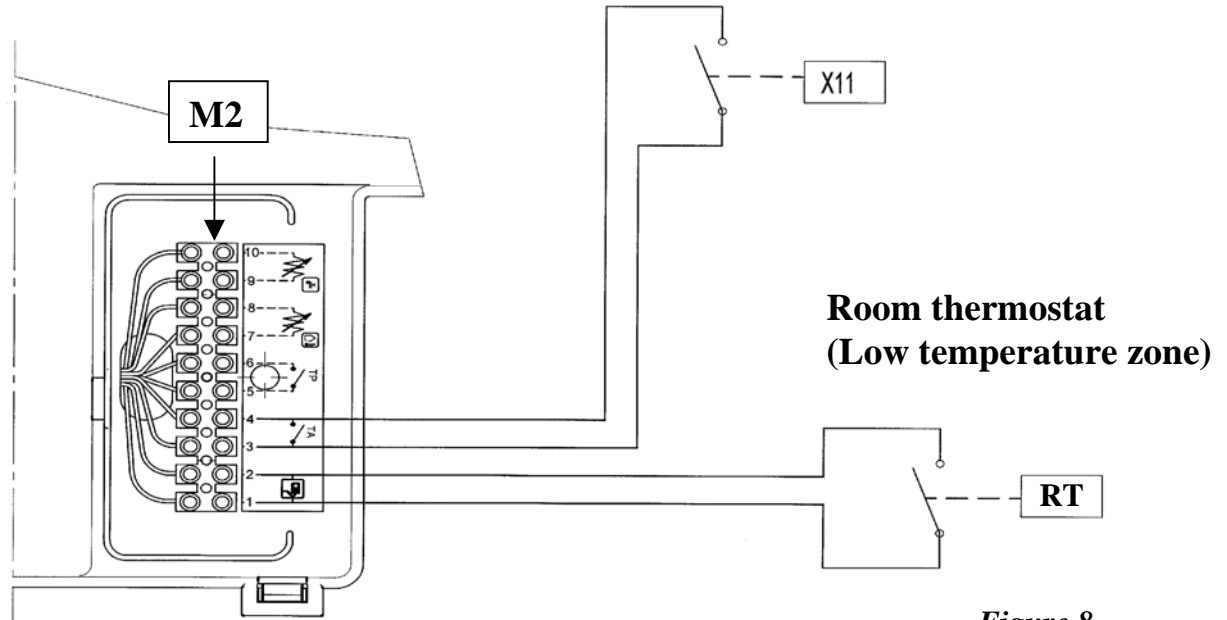

Figure 8
- The contact of the room temperature thermostat must be connected to the terminal boiler board M2 pins 1-2 (figure 8).
- The contact of the room thermostat must be connected to the terminal boiler board pins 1-2 (figure 8).